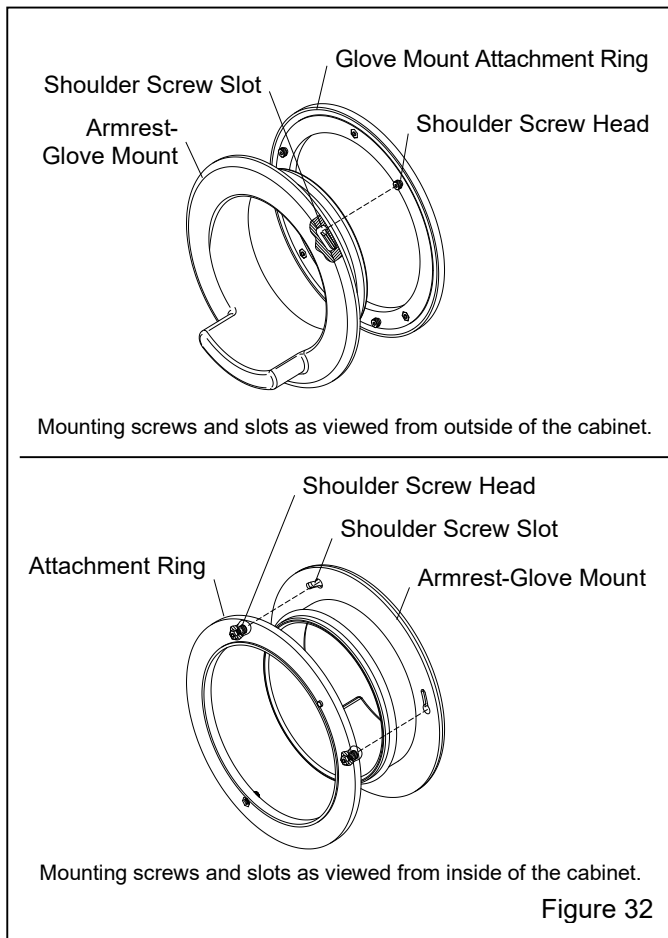

Figure 32
7.2 Quick-Change Gloves and Glove Mounts Figure 32